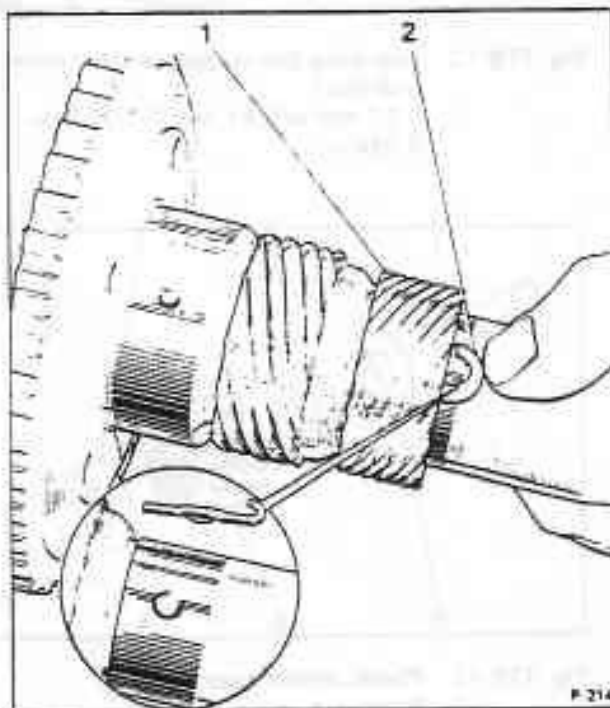

Fig. T19-9 Removing a nylon speedometer drive gear
1. If a nylon gear is fitted to the shaft, depress the retaining clip and slide the gear off the output shaft (see fig. T19-9).